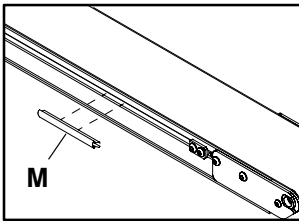

Figure 13
2. To contain a long run of wiring cable in the conveyor T-slot channel, use several short lengths of T-slot Cover Strips (M) (Figure 13). Or, to completely contain a long run of cable, purchase T-slot Cover Strip (645656P) at length required.